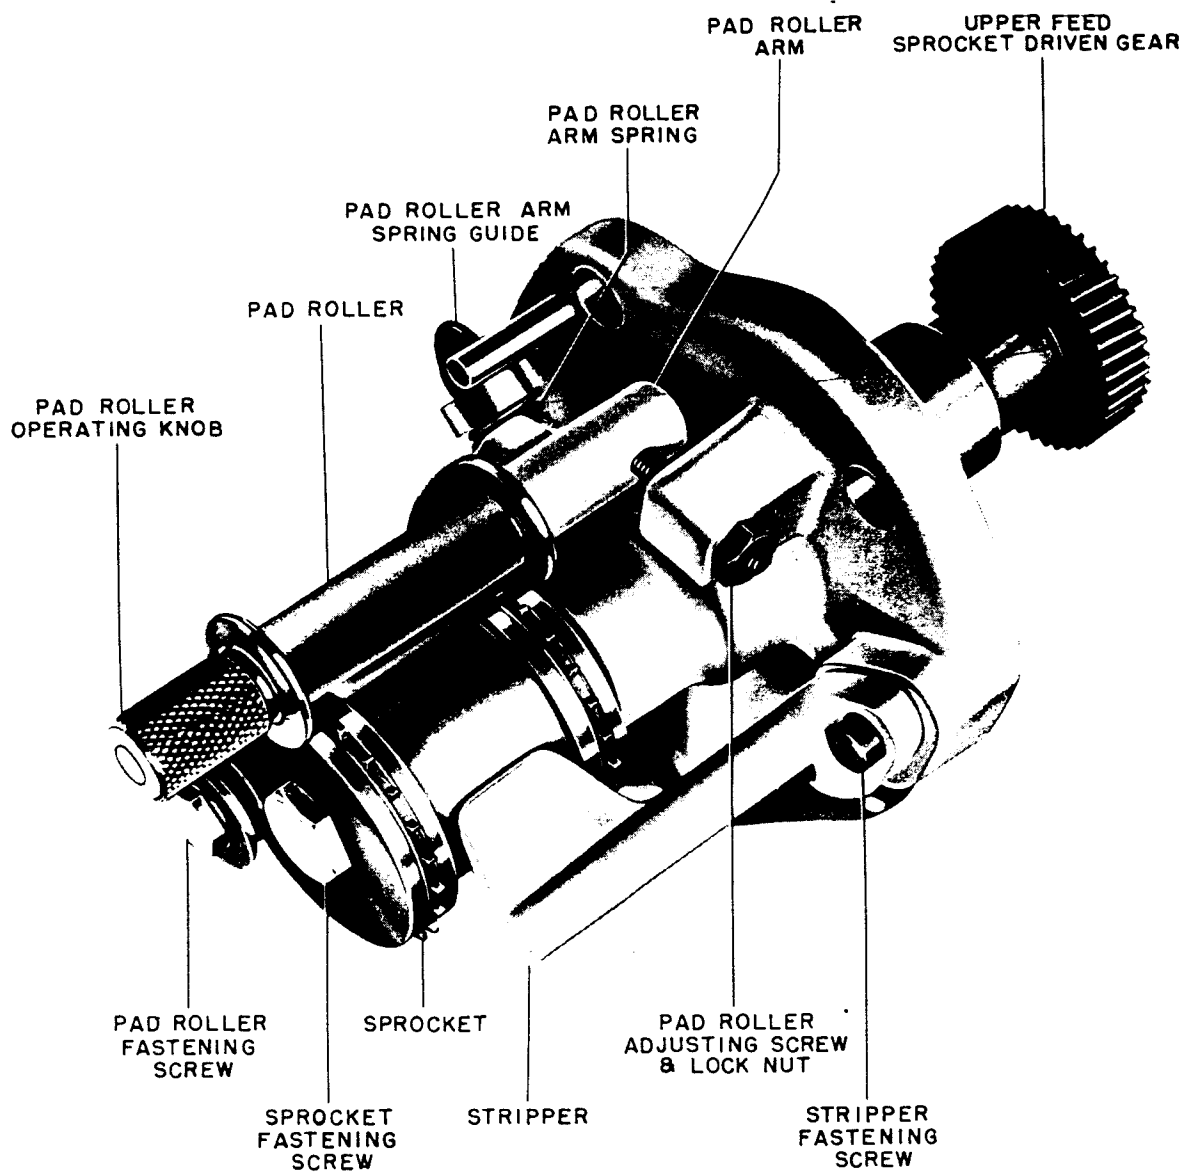

Figure 4-6
2. Lower Feed Sprocket Replacement (See figure 4-6.)
3. Lower Feed Sprocket Driven Gear Replacement (See figure 4-6.)
4. Lower Feed Sprocket Pad Roller Assembly Replacement (See figure 4-6.)